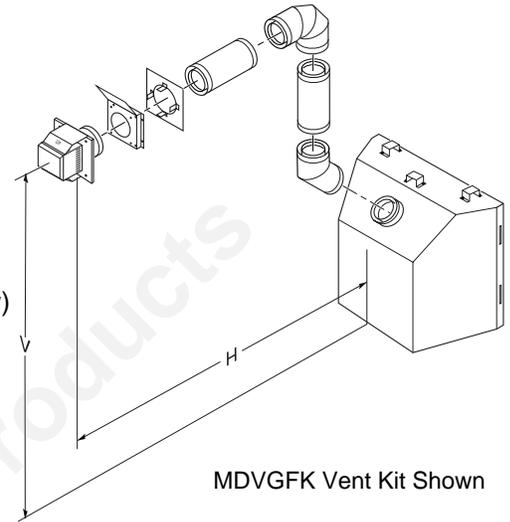

Figure 17 - Horizontal Termination Configuration for Rigid Venting Using One 90° Elbow
See information in Figure 17 for Vertical (V) and Horizontal (H) maximums and minimums. The same amounts apply for flexible venting.